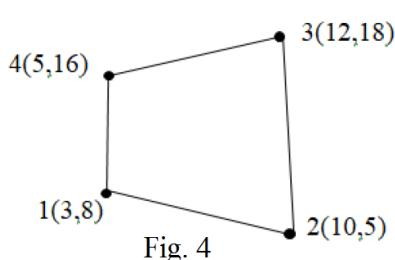

Fig. 4
c) For the quadrilateral element shown in figure 4, find the Jacobian matrix at $\xi = \frac{1}{4}$ and $\eta = \frac{1}{4}$. 05